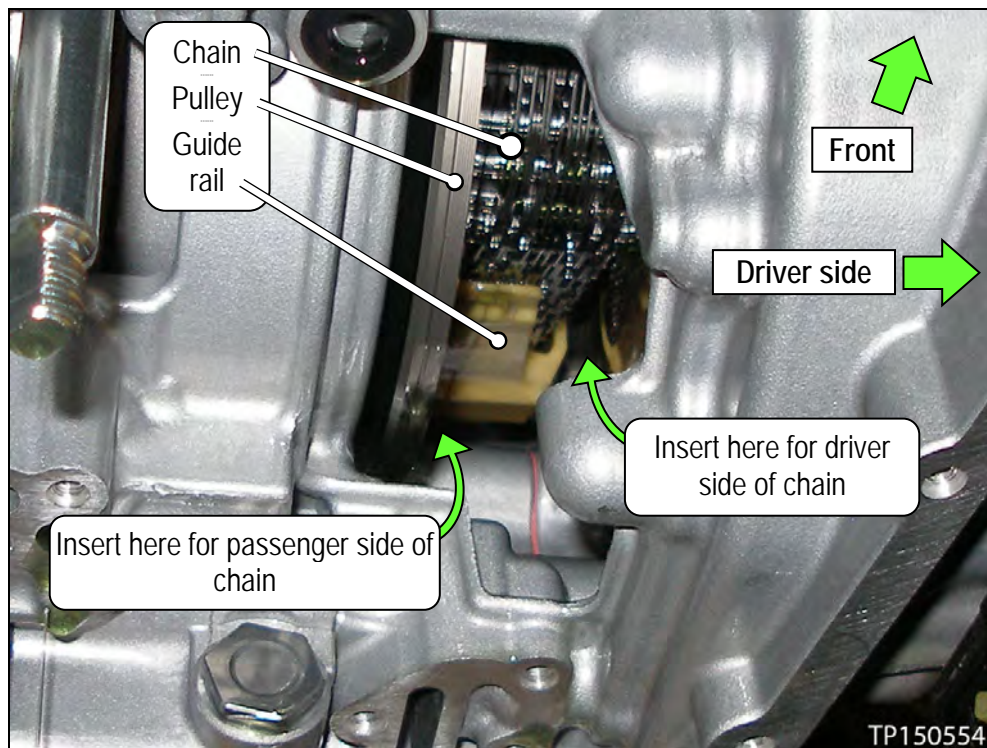
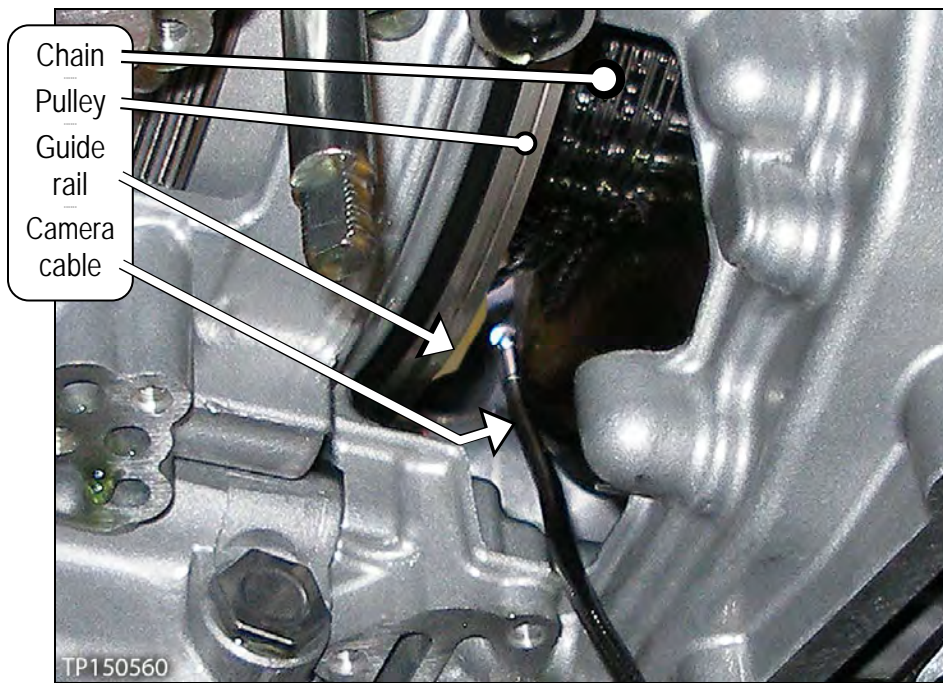

Figure 4C
Figure 5C
- a. Insert the borescope into the correct area of the CVT (see Figures 4C - 7C).
Refer to Figures 4C to 8C for camera lens (borescope) insertion instructions:
- Insert the camera lens behind the pulley between the guide rail and the pulley where shown in Figure 4C (see also Figure 5C – 8C).
- Figure 5C shows where to insert the camera lens on the driver side of the chain.